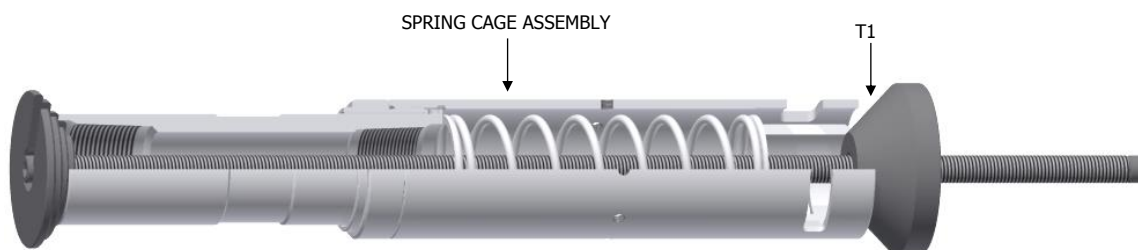

Fig. 4
L-1.1.3) Compress compression spring (4) with spring cage assembly tool (T1) (Fig. 4).